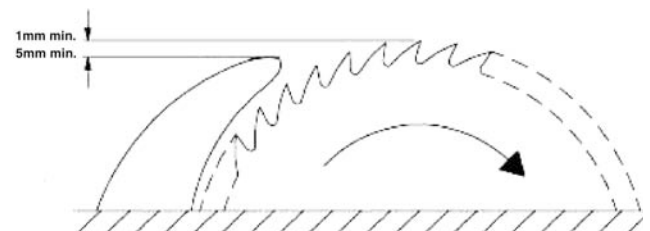

FIGURE 23
For safety reasons, the highest point of the riving knife (A) Fig.23 should never exceed the highest point of the blade teeth, generally 1/8" to 3/16" (1-5mm).